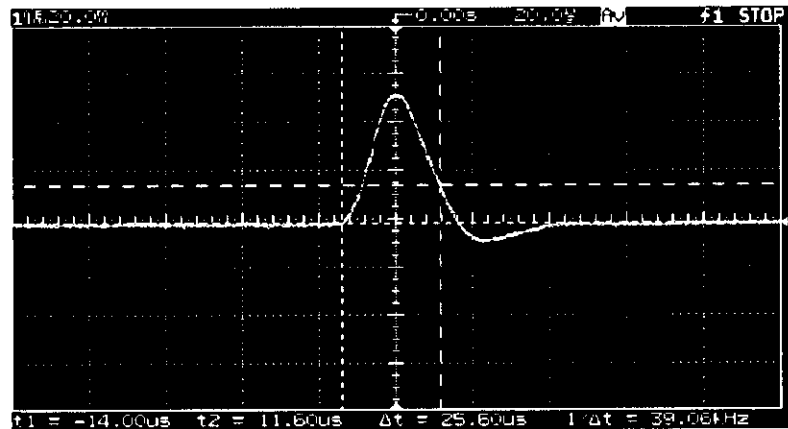

Figure 3-2. Transient Response Time
- 5 Adjust the the oscilloscope to display transients as shown in Figure 3-2. Note that the pulse width ( $t_2 - t_1$ ) of the transients at 15 mV from the base line is no more than 50  $\mu\text{sec}$  for the output.